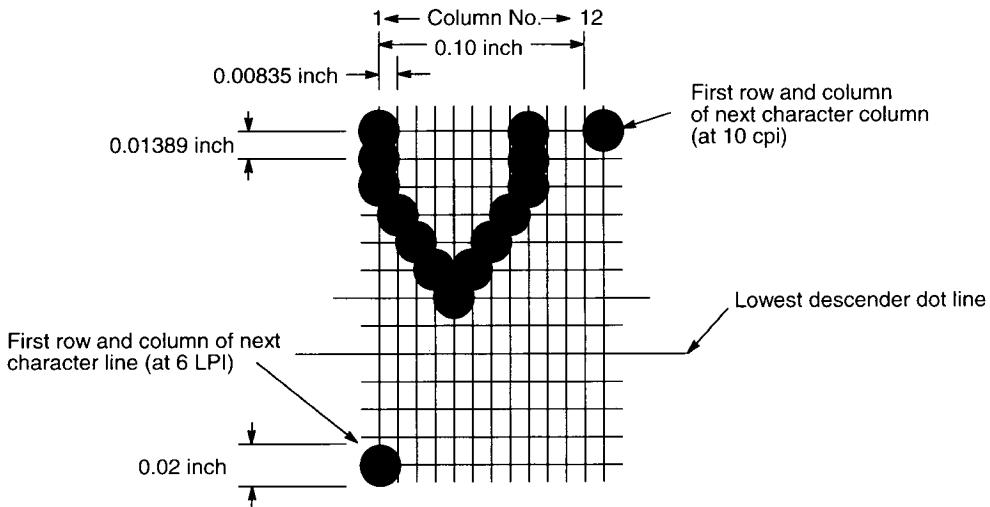

Figure 62. A Dot Matrix
Every text character is stored in printer memory as a pattern of dots on a logical grid called the dot matrix. (Figure 62.) The ink dots that appear on the paper are made by a row of hammersprings mounted on a shuttle that sweeps rapidly back and forth. Logic circuits on the controller board divide every line of incoming print data into horizontal dot rows. The hammers put dots at the required positions for the entire line by driving an inked ribbon onto the paper.
The dot matrix patterns of text characters vary according to the font the user selects. For example, in the data processing (DP) font at a line spacing of six lines per inch (lpi), a dot matrix contains 12 dot rows from the top of one character line to the top of the next. (Figure 62 and Figure 63.) At eight lpi there are nine dot rows per character line, at nine lpi there are eight dot rows per character line, and so on.